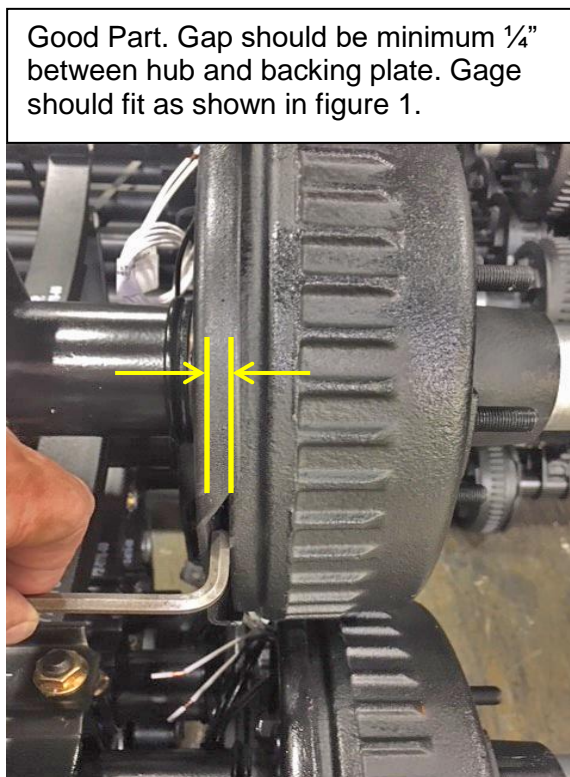
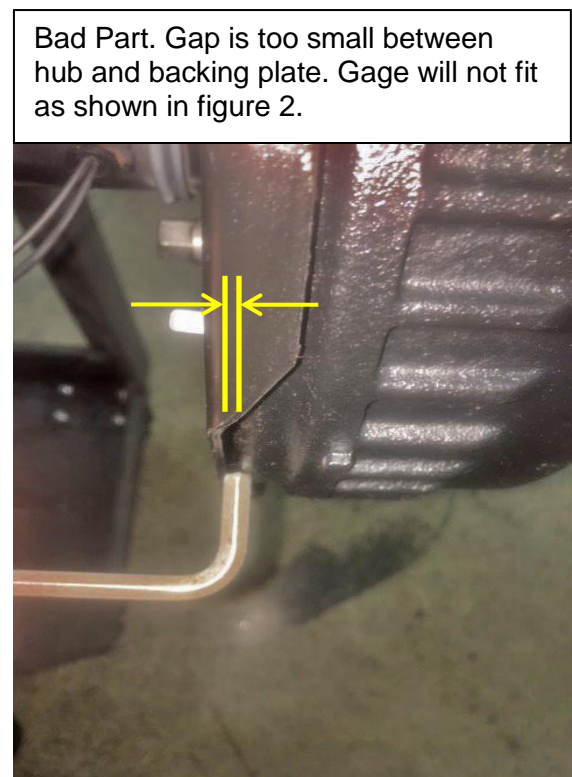

Figure 1
Figure 2
1. While underneath trailer, look at gap between hub-drum and backing plate in scalloped areas of backing plate. Using $\frac{1}{4}$ " gage (Allen Wrench), attempt to insert gage between hub –drum and backing plate, in the scalloped area of the backing plate, as shown in figure 1.
2. Determine if the gage fits (figure 1) or does not fit (figure 2) between backing plate and hub-drum.